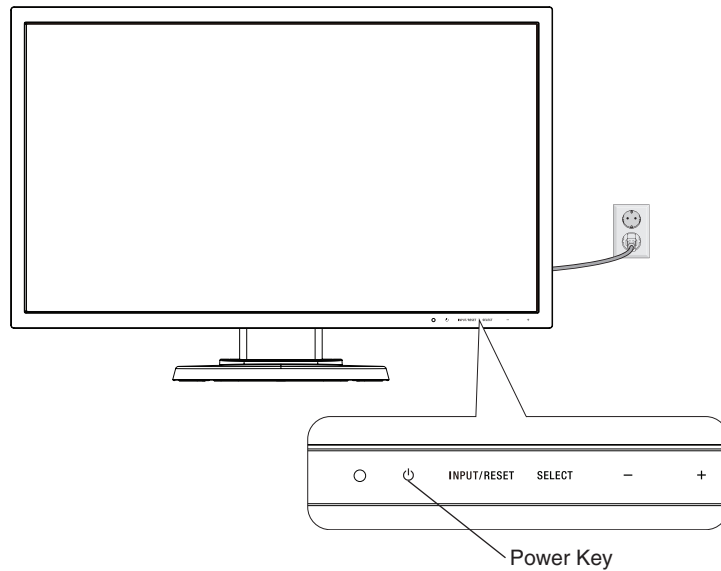

Figure E.1
8. Turn on the computer and the monitor by touching the power key on the front bezel (**Figure E.1**).